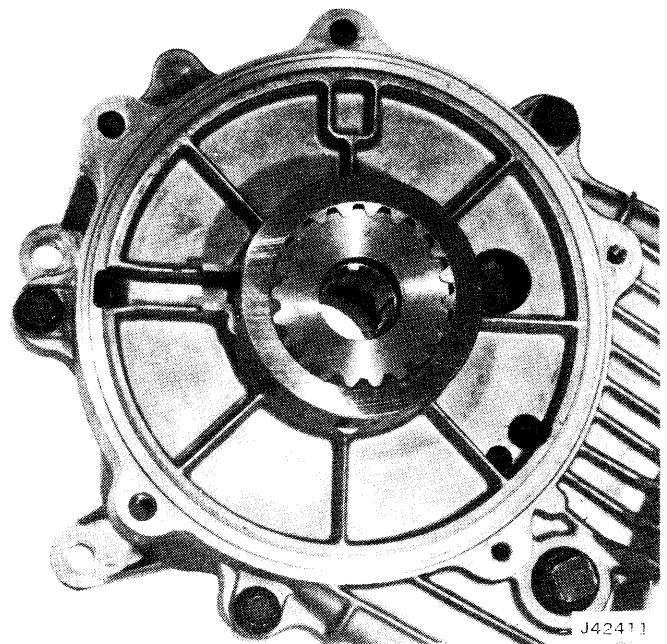

Fig. 8-57 Drive Hub and Sleeve Installed
- (7) Align and install case cover on drive sprocket and differential. Rotate output shaft and align with lockup hub if necessary. Be sure drive sprocket thrust washer is not displaced.
- (8) Assemble drive hub, drive sleeve, and snap ring if disassembled (fig. 8-57).
(9) If not equipped with reduction unit, install drive sleeve and hub on drive sprocket. Be sure snap ring seats completely.
(10) If equipped with reduction unit, be sure oil baffle is in position, and install pinion cage and snap ring.
(11) Install case assembly on cover assembly and install front output shaft, output shaft thrust washer and front case gasket.
(12) Align and install case on differential drive sprocket. Install case-to-cover attaching screws. Tighten screws alternately and evenly to 20 foot-pounds torque.